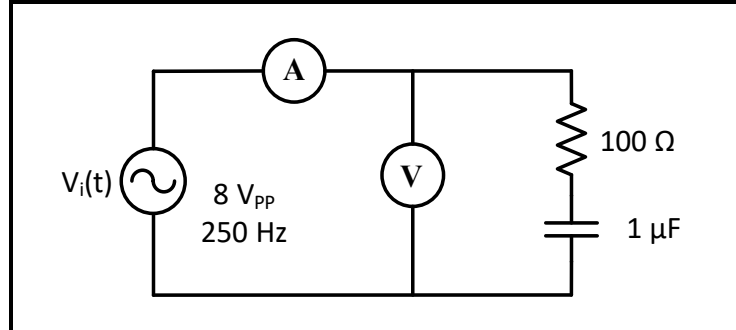

Figure 7.10
4. Connect the circuit in Figure 7.10, set V_{in} to sinusoidal voltage at $8 V_{PP}$, and $f = 250$ Hz.
a. Repeat steps (a) and (b) in (1) for the circuit in Figure 7.10 record results in Table 7.4.